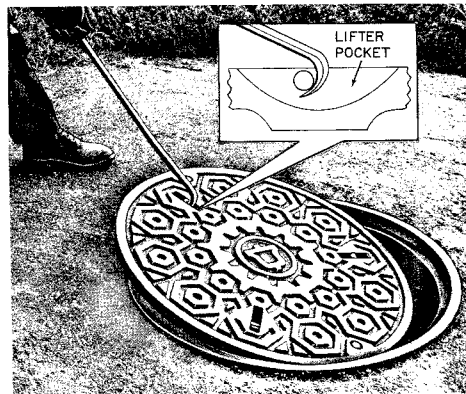

Fig. 14 - Unseating G or H Covers With Rectangular Lifter Pockets
- (1) Locate one of the lifter pockets in the cover surface and remove any dirt in the pocket with a screwdriver or suitable tool. This is accomplished by a simple jab-and-pry technique, flipping the debris toward the center of the cover
- (2) Insert the manhole hook into the pocket as shown in Fig. 14, making certain the hook engages the horizontal rod in the lifter pocket.
- (3) The cover should be unseated approximately 4 inches (Fig. 14) by pulling with the manhole hook.